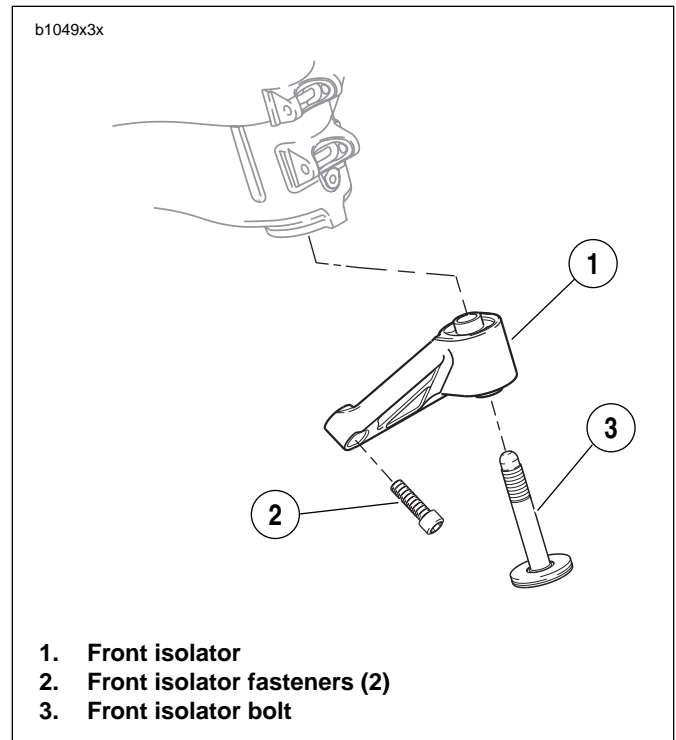

Figure 3-44. Front Isolator
10. See Figure 3-44. Insert front isolator bolt (3) through front isolator (1) and loosely thread into frame. Do not tighten at this point.
11. Install isolator mounting fasteners (2) and tighten to 49-51 ft-lbs (66.4-69.1 Nm).